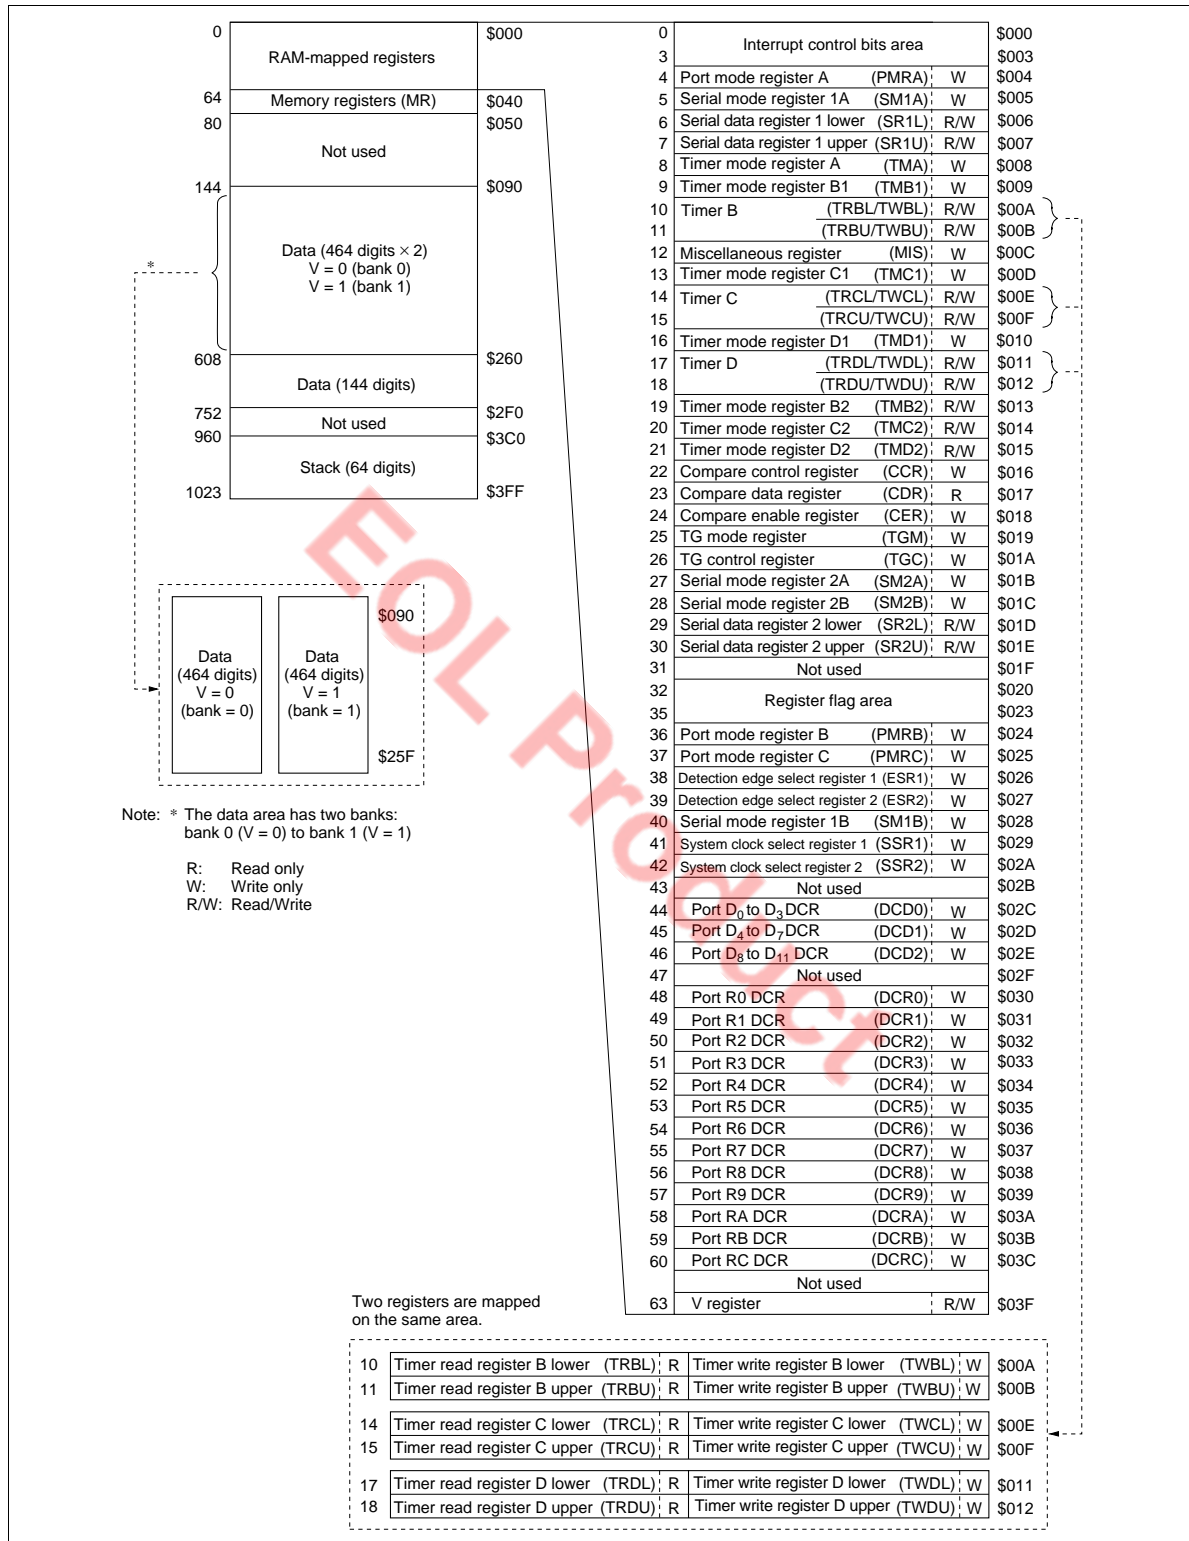

Figure 2 RAM Memory Map
The MCU contains a 1,152-digit \times 4-bit RAM area consisting of a memory register area, a data area, and a stack area. In addition, an interrupt control bits area, special register area, and register flag area are mapped onto the same RAM memory space as a RAM-mapped register area outside the above areas. The RAM memory map is shown in figure 2 and described as follows.
This area is used as mode registers and data registers for external interrupts, serial interface 1, serial interface 2, timer/counters, voltage comparator, and as data control registers for I/O ports. The structure is shown in figures 2 and 5. These registers can be classified into three types: write-only (W), read-only (R), and read/write (R/W). RAM bit manipulation instructions cannot be used for these registers.